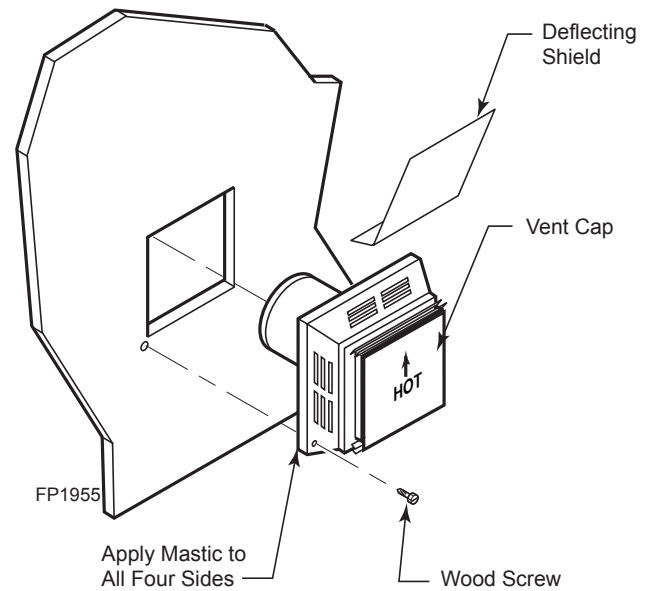

Figure 18 - Installing Horizontal Vent Cap
4. Apply a bead of non-hardening mastic around the outside edge of vent cap. Position the vent cap in the center of hole on the exterior wall with the word "UP" on the vent cap facing up. Insure proper clearance of 1" to combustibles is maintained. Attach the vent cap with four wood screws supplied. *Figure 18*